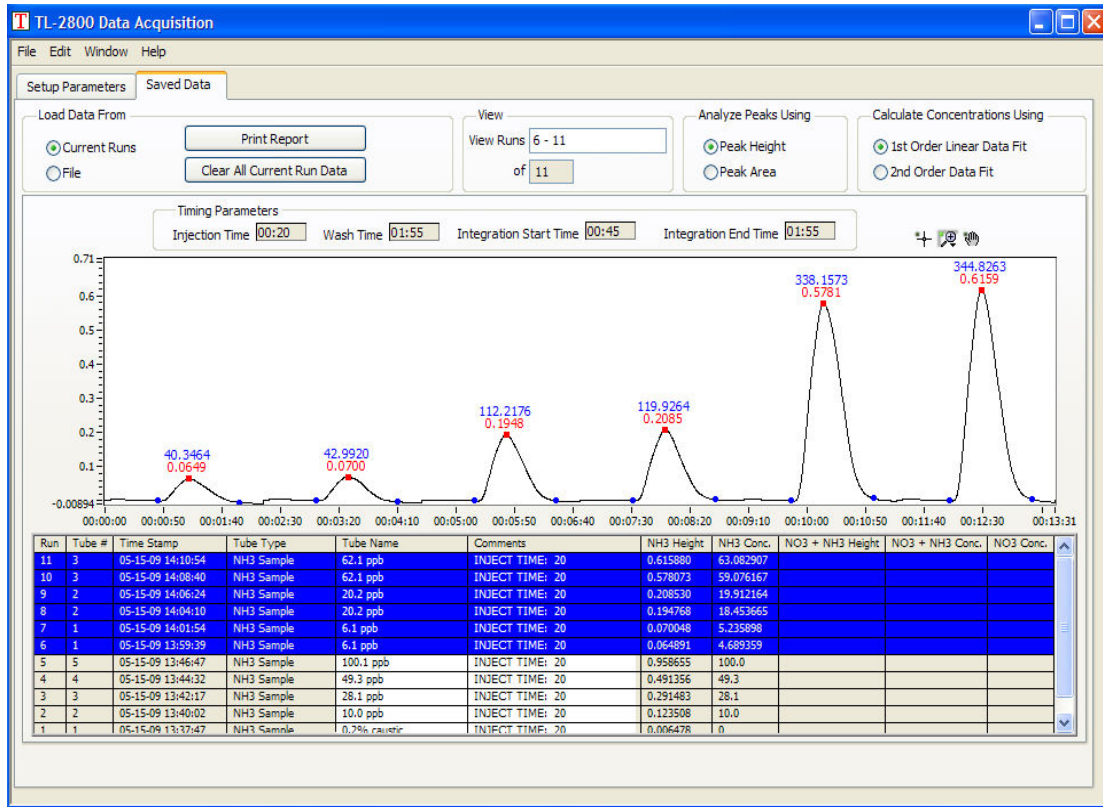

Figure 3-8: Saved Data Tab.
- The newest peaks are shown on the right of the plot and their information presented at the top of the table. See figure 3-8.